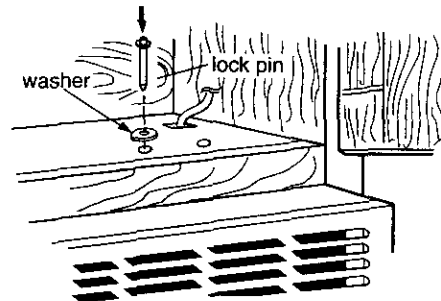

Figure 33
3. Drop the lock pin and washer assembly into hole N (left side hole) and push the pin down as far as it will go. See Figure 33.